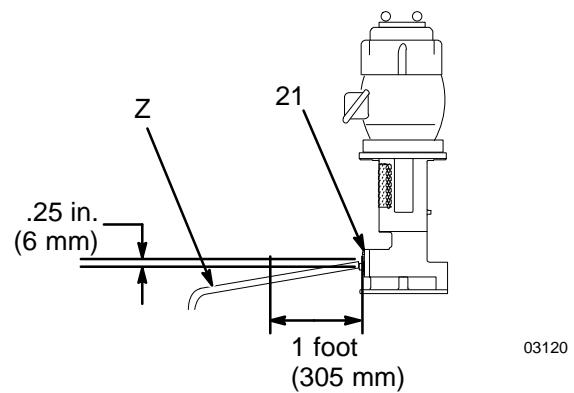

Fig. 2
See Fig. 2. Remove the plug from the port of the slinger cover (21). In the port; Install a minimum 3/4 in. (19 mm) ID drain tube (Z) for solvent based materials, and a minimum 1 in. (25 mm) ID drain tube for waterborne materials. **Slope the tube downward, a minimum of .25 in. (6mm) per foot of tube** and route the tube into the mix tank.